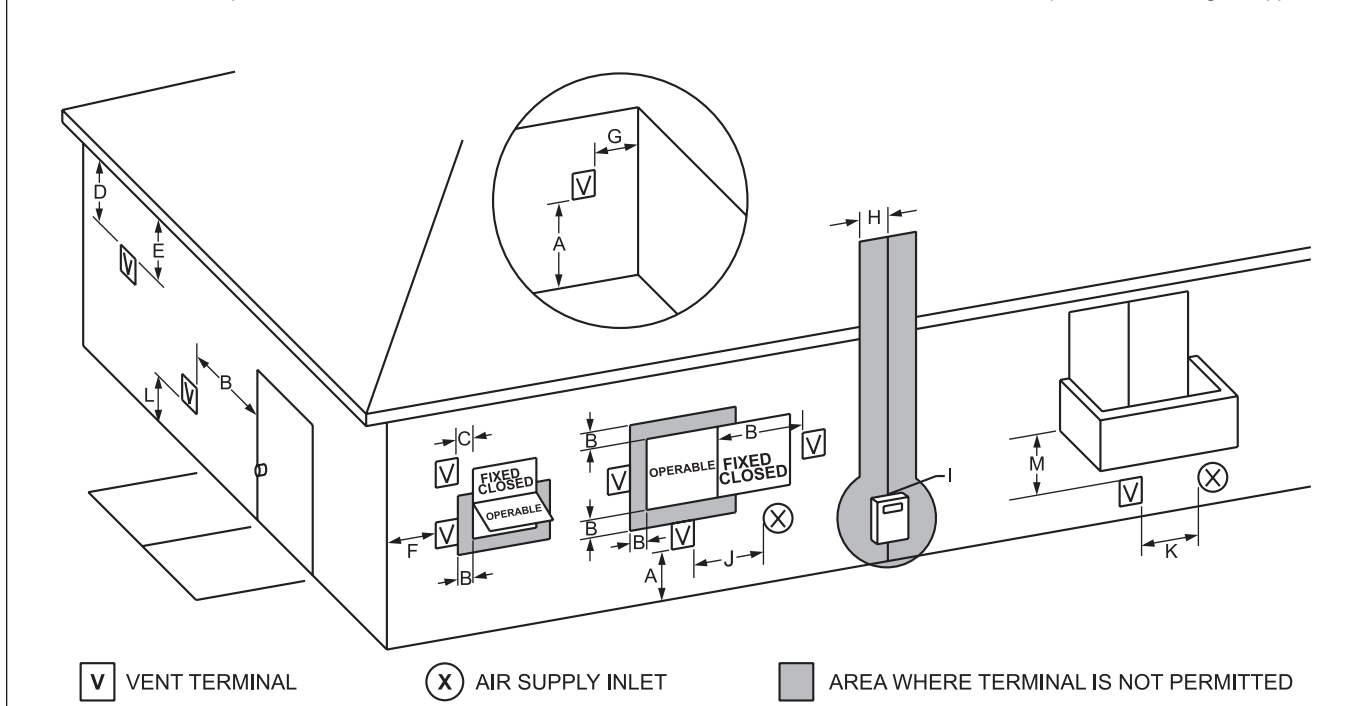

Figure 3. Combustion Air and Vent Through Side Wall.
1. Figure 3 shows the requirements for mechanical vent terminal clearances for the U.S. and Canada.
4. If the Copper Brute II is side-wall vented to the same wall, locate the vent terminal at least 3 feet (0.9m) horizontally from the combustion air terminal, and locate the vent terminal at least 1 foot (0.3m) above the combustion air terminal (see Figure 3).